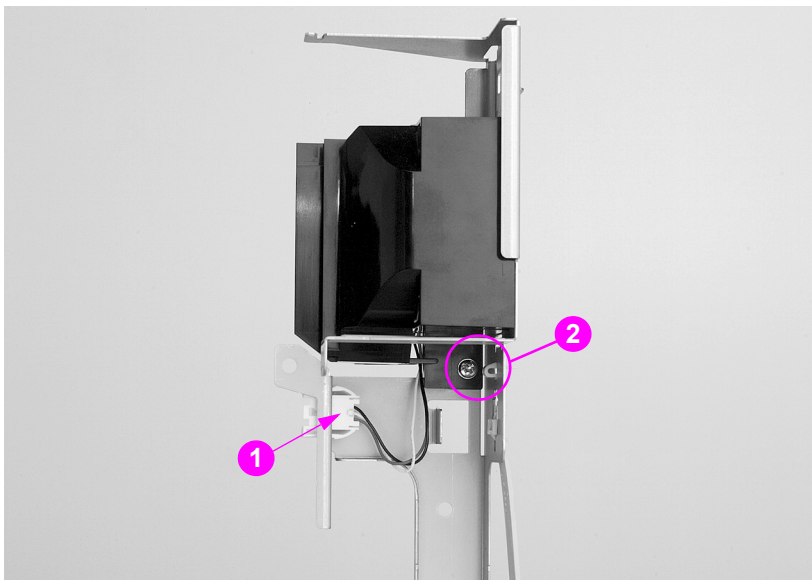

Figure 6-61 Left side fan removal and replacement (3 of 3)
- 6 Disconnect the cable shown in callout 1, Figure 6-61.
- 7 Remove the screw from the black plastic cover and remove the fan casing shown in callout 2, Figure 6-61.